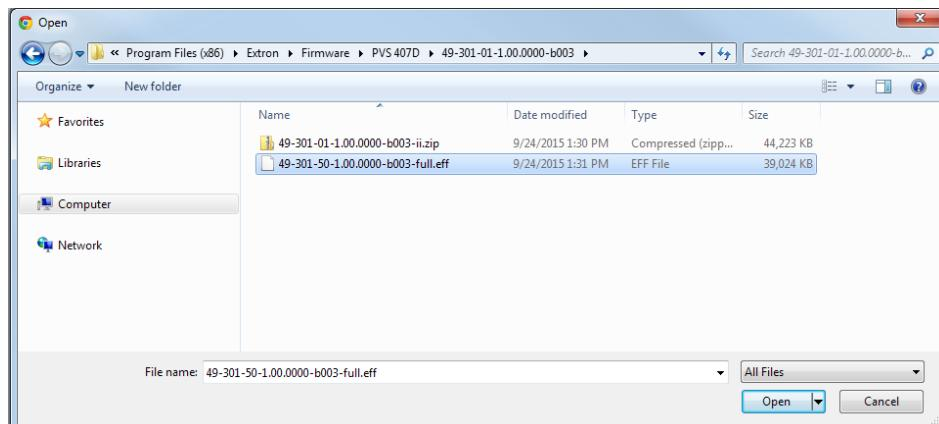

Figure 57. Explorer Window
2. On the **Firmware** panel (see **figure 51** on page 66), click **Select File**. This opens an Explorer window (see figure 57).